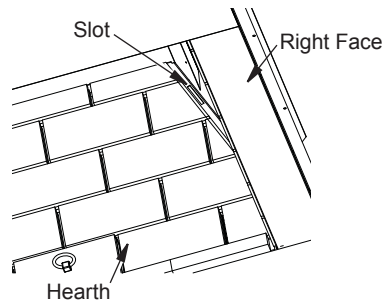

Figure 22 - Slots for Firebrick Walls
5. Install the left and right firebrick walls. There is a bracket with 2 tabs on the bottom of each firebrick wall. Angle the wall into the fireplace opening and into the slots on the side of the hearth (Figure 22), then tilt the top of the panel toward the firebox surround.